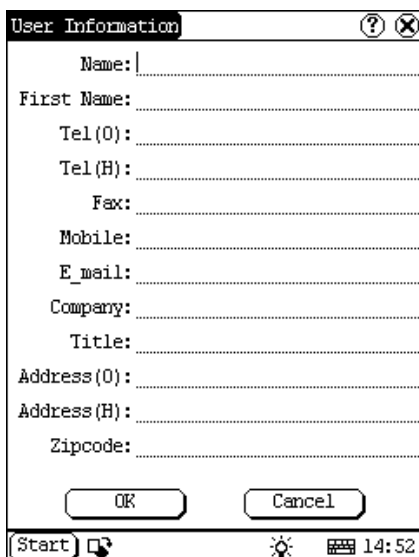

Figure 4-44
- 4) In the User Information interface, activate Soft Keyboard, and input the user information. (See Figure 4-44)